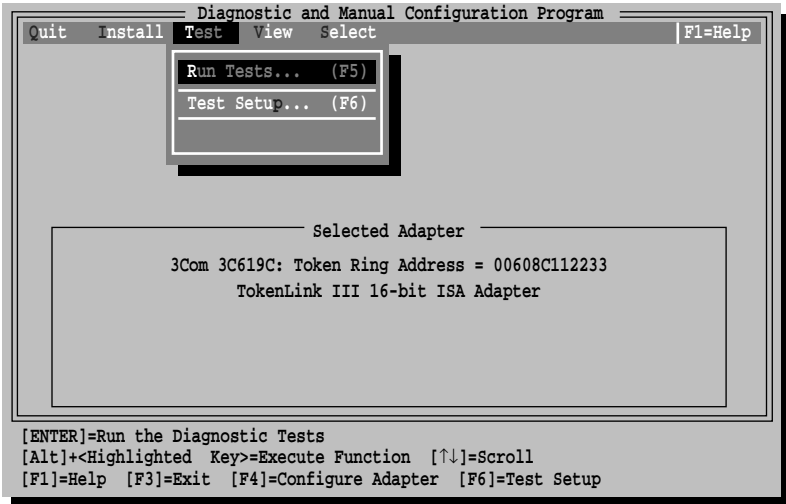

Figure 7-3 Test Menu
- 2 From the Test pull-down menu shown in Figure 7-3, select Run Tests.